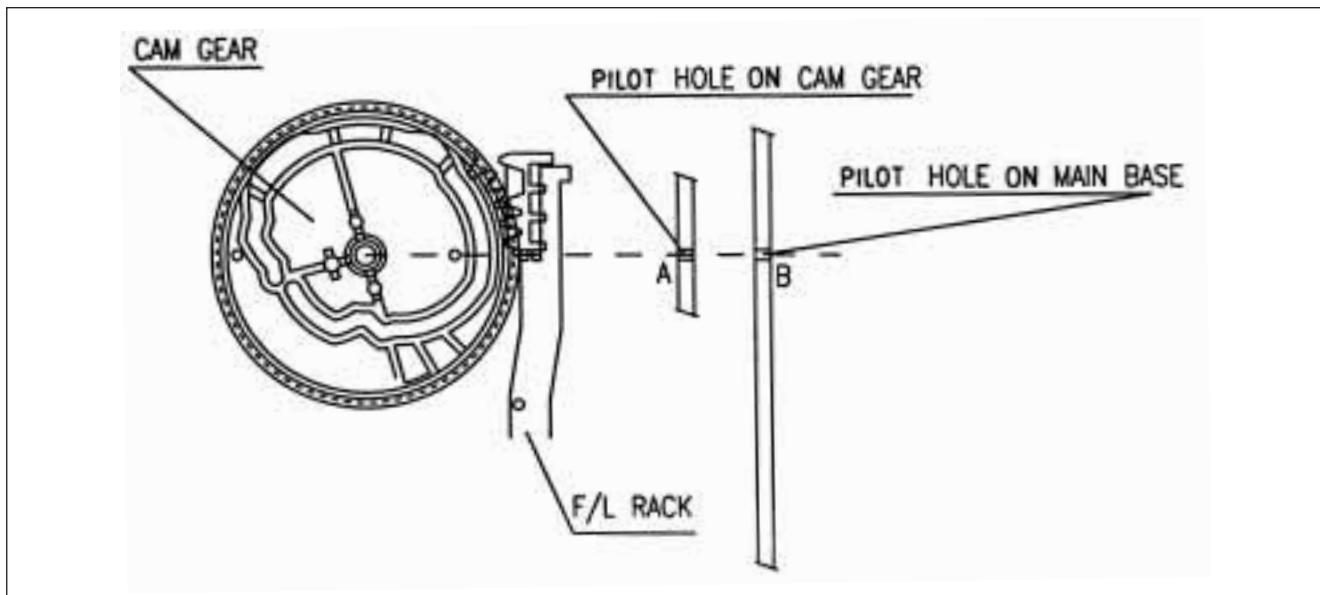

Fig. 1– Mechanical Checks/Cam Gear and F/L Alignment
## 5. Mechanical Checks/Gear Alignment (fig. 1, 2, 3, 4, 5)
1. Make sure that the pilot hole on the cam gear "A" is aligned with the hole "B" in the main base in the EJECT mode (fig. 1)